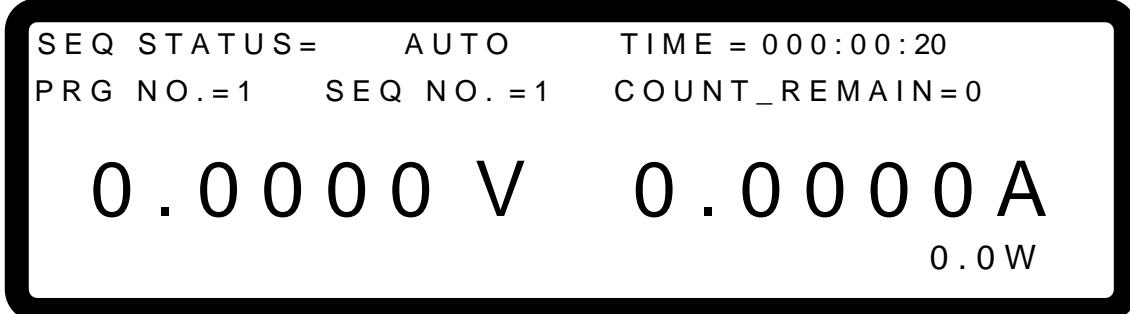

Figure 4-16
2. Press “” again to confirm the execution and go to the MAIN PAGE as shown in Figure 4-16. To stop execution, press “” to return to the standby MAIN PAGE.